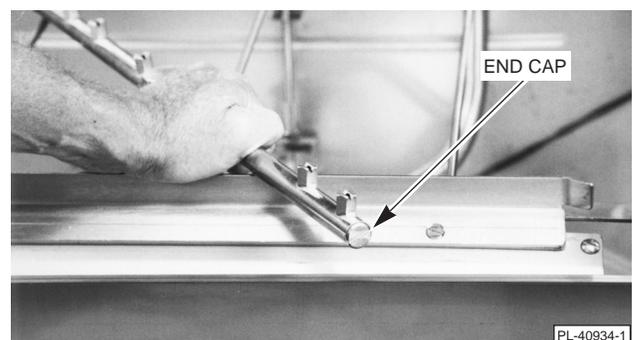

Fig. 20
3. Unscrew the threaded end caps (Fig. 20) and thoroughly clean and flush the wash arms in a sink. Replace the end caps.